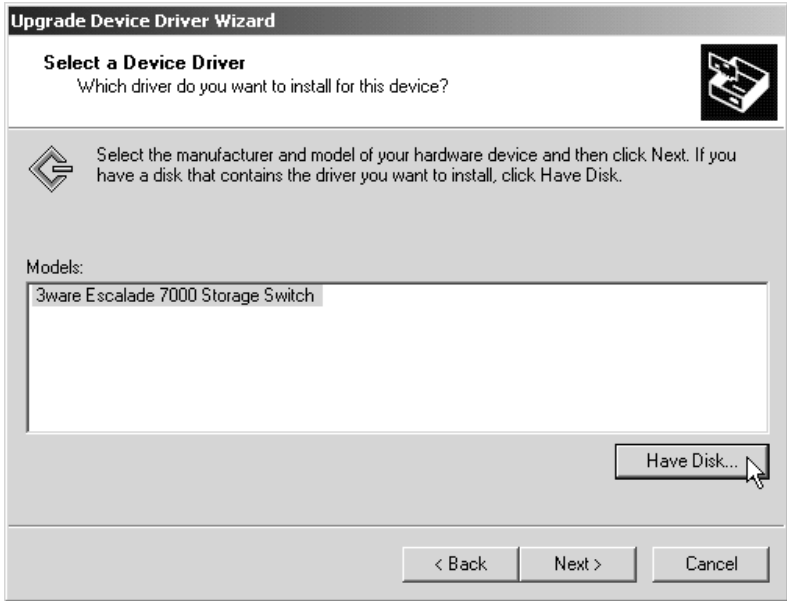

Figure 42. Select a Device Driver
- 2 The **Select a Device Driver** dialog appears (see Figure 42). Click on the **Have Disk...** button.